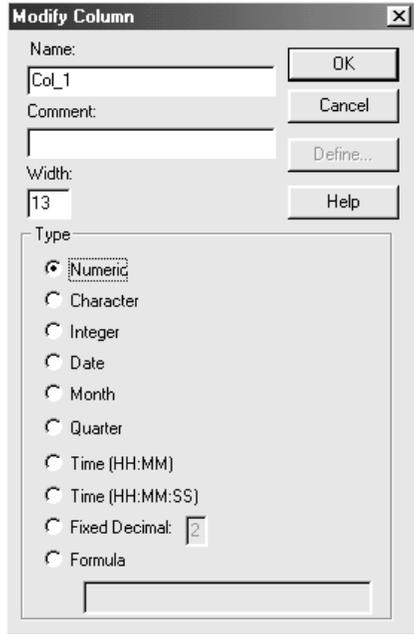

Figure 4-2. *Modify Column Dialog Box*
3. Access the Modify Column dialog box in one of three ways: double click on a column name, select Modify Column from the Edit menu, or use the DataSheet pop-up menu. (see Figure 4-2).